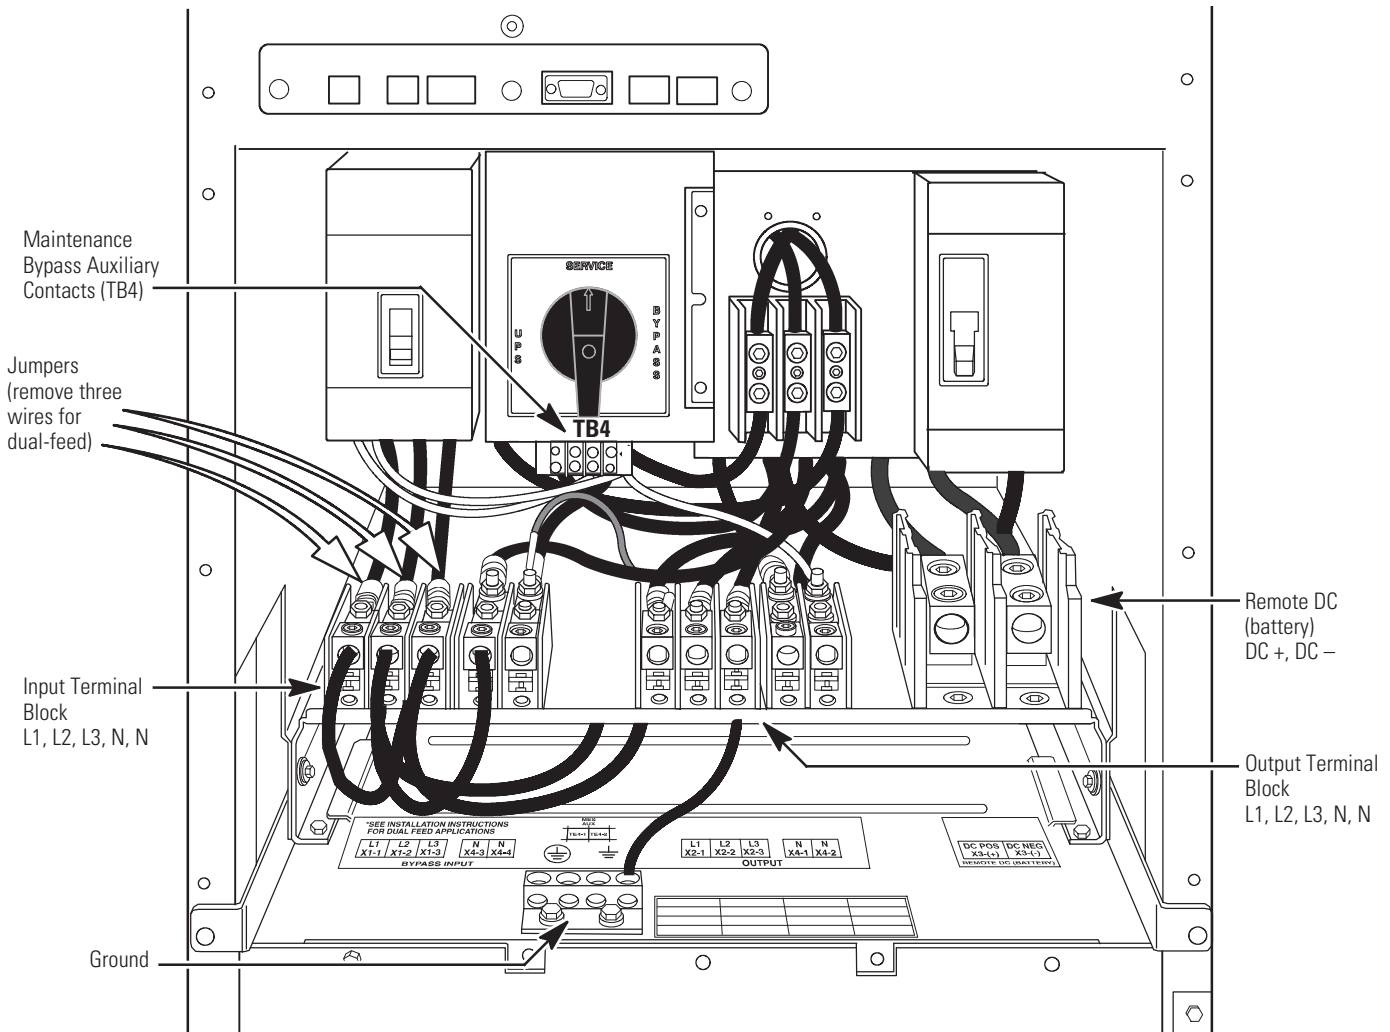

Figure 23. UPS Terminal Block
For a detailed view of the UPS terminal block, see Figure 23 on page 36.
5. Remove the jumpers between the UPS input terminal block and the input circuit breaker (see Figure 23 on page 36).